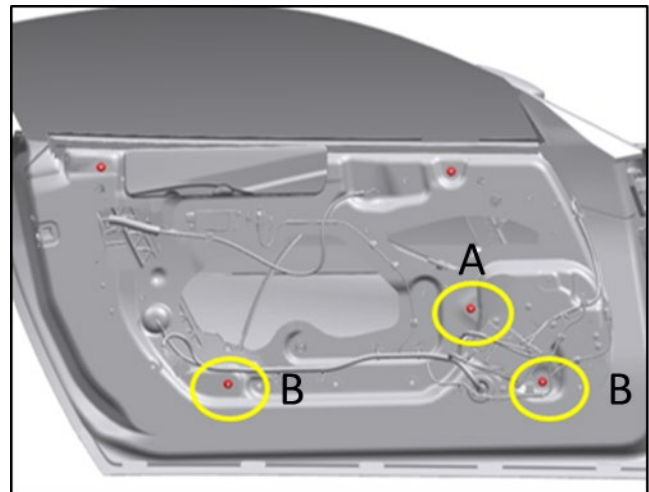

Figure 8
16. Use the two lower regulator fixings to adjust the door glass in or out until it seals correctly to the primary door weatherstrip. (Refer to B in Figure 8.)